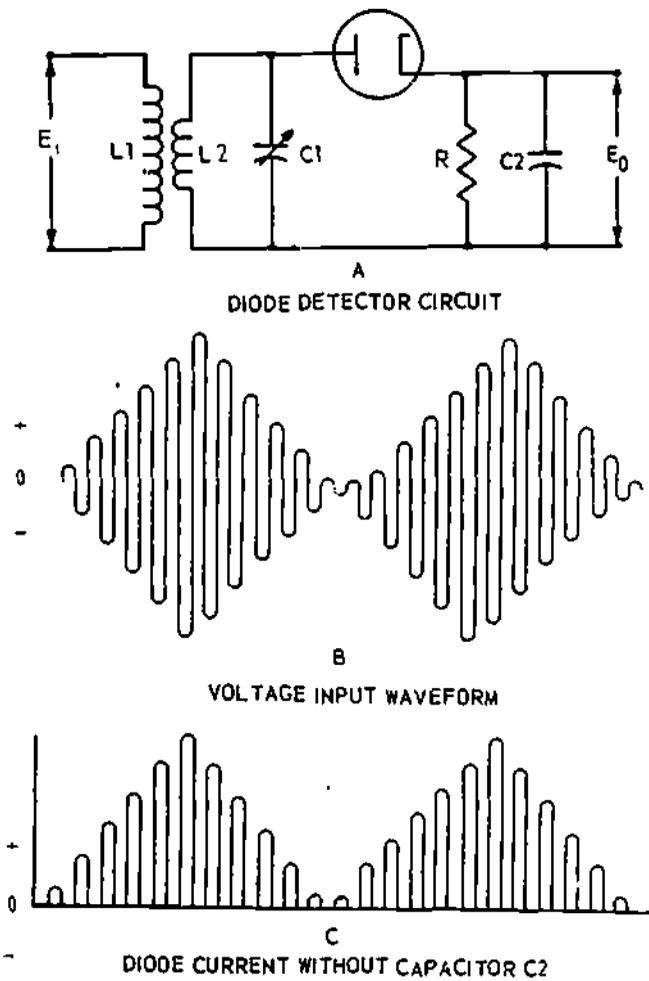

Figure 1. Diode Detector Circuit and Waveforms
1. In figure 1, the vacuum tube serves as:
3. In figure 1, the tank circuit consisting of L2 and C1 is tuned to: